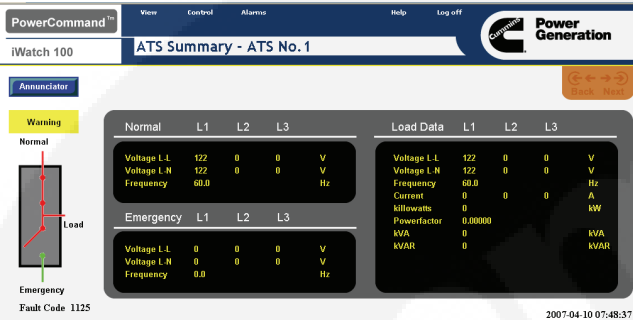

FIGURE 5-7. ATS SOURCE AND LOAD DATA
**NOTE:** A level 2 OTPC switch control with the load monitoring package installed is required to provide all of the data shown in Figure 5-7. If the load monitoring package is not installed, the load side data will show 65,535 for voltages, and 32,767 for currents.